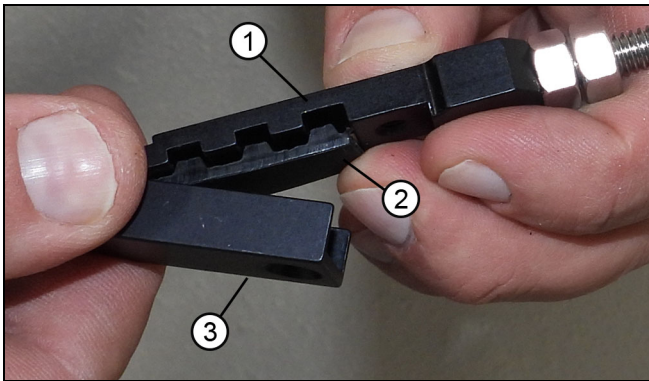

Figure 47
7. Fasten belt to turnbuckle, completing the loop. See Figure 47.